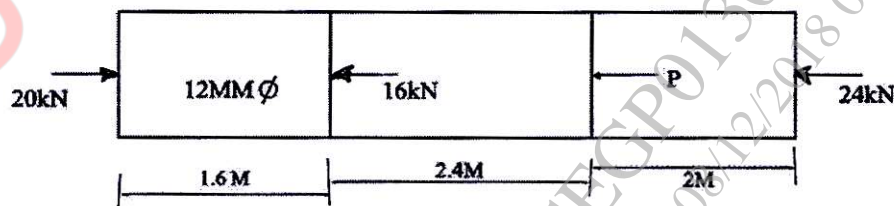

Fig. 1.1
1. (a) Determine load 'P' and total elongation of the bar. Refer Figure 1.1. Assume $E = 200 \text{ GPa}$. [6]